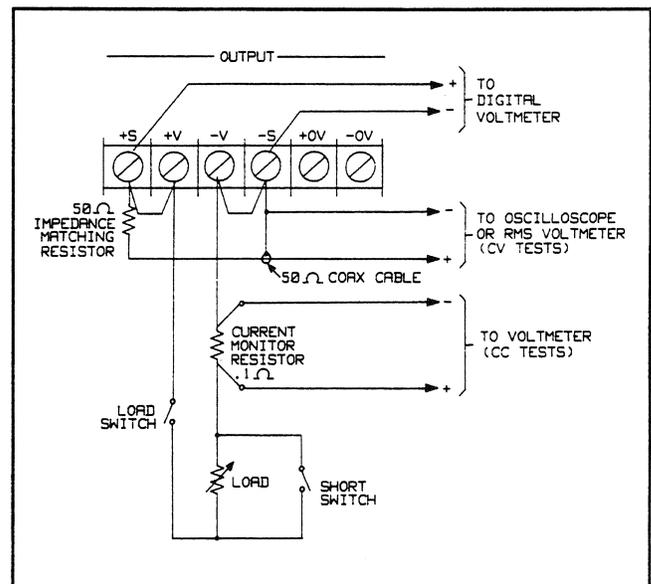

Figure 3-3. Basic Test Setup
- Turn off the supply and connect the output to be tested as shown in Figure 3-3 with the DVM connected between the +S and -S terminals, the Load switch closed, and the Short switch opened.
- Connect the output to be tested as shown in Figure 3-3 with the DVM connected between the +S and -S terminals, the Load switch closed, and the Short switch opened.
- Turn off the supply and connect the output to be tested as shown in Figure 3-3 to an oscilloscope (ac coupled) between the +S and -S terminals, the Load switch closed, and the Short switch opened. Be sure to keep the leads from the 50 ohm impedance matching resistor and the 50 ohm coaxial cable shield that run to the + S and - S terminals as short as possible to avoid external noise pickup.